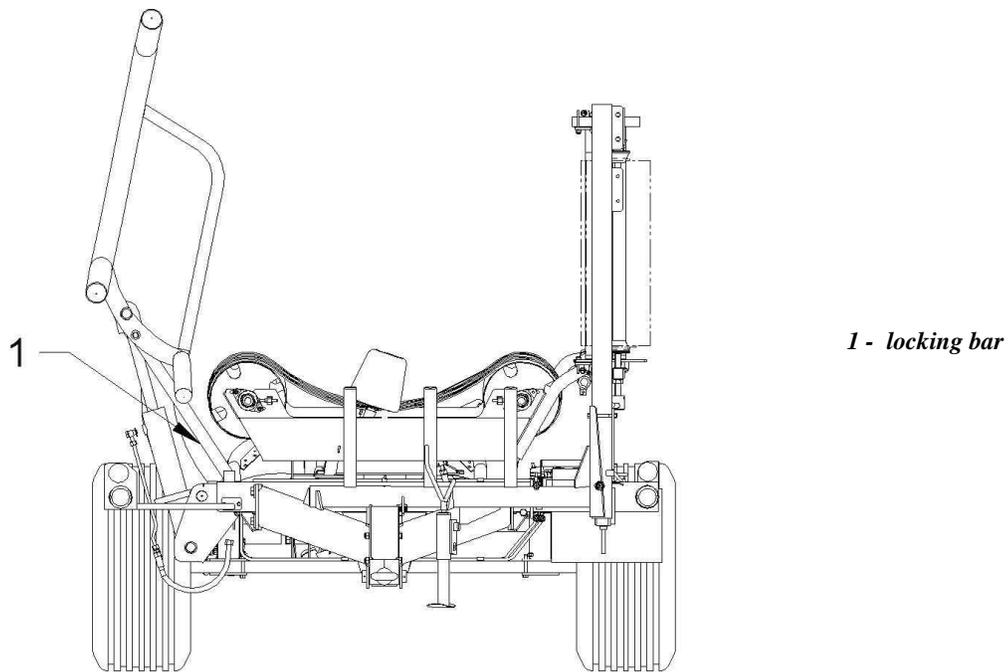

Fig. 27. The bale wrapping machine in transport position
After the ling arm is lifted upwards, it should be secured against dropping with a locking bar (see Fig. 27 pos. 1) which is a part of the machine equipment (on the right side of the drawbar). Prior to commencement of operation, you must absolutely disassembly the locking bar, store it in its designated place (1) and secure it with spring cotters.